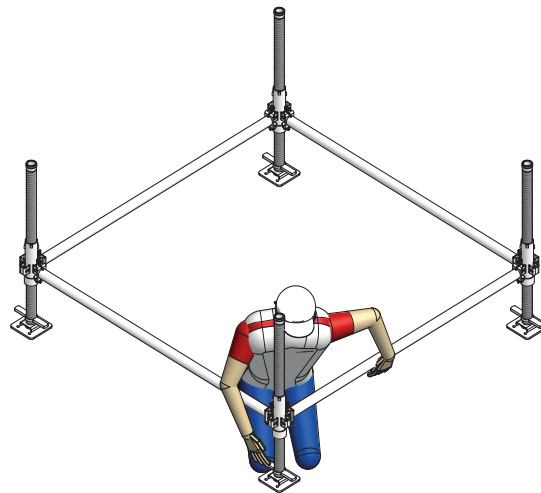

Fig. 8.1
4. Connect the 4 ledgers 170 MT with their integrated wedges to the base spindles MT (Fig. 8.1).
6. Tighten the wedges with a few hammer blows (Fig. 8.1).